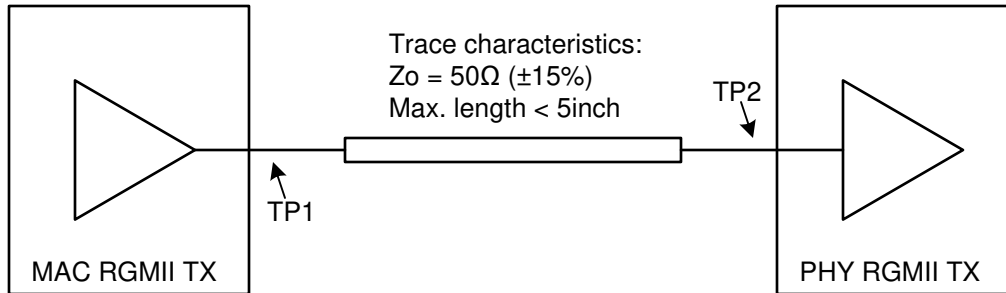

Figure 8-14. RGMII TX Requirements
- Figure 8-14 shows a RGMII interface requirements for TX* signals. MAC RGMII driver output impedance should be 50Ohm+/-20%.
- Skew for all RGMII TX signals at TP2, in Figure 8-14, should be $\pm 500\text{ps}$.
- Signal Integrity at TP1 and TP2, in Figure 8-14, should be verified with IBIS model simulation and ensured conformance to following requirements: